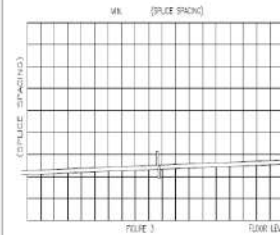

FIGURE 3: TYPICAL CONNECTION DETAILS OF CONCRETE WALL REINFORCEMENT
3. CARRY VERTICAL BARS AT LEAST 100mm ABOVE FLOOR LEVEL TO PROVIDE FOR SPICES WHEN NECESSARY. STOP AT 100mm BELOW TOP OF THE SLAB OR SOLID BRIDGE WHERE THE WALLS ARE. HORIZONTAL AND VERTICAL BARS SHALL BE SPACED BY LAPPING AT DISTANCE EQUAL TO 40 DIAMETER AND VERTICALLY WITHIN 10.0 METERS. PROVIDE THAT SPICES IN ADJACENT BARS ARE TRANVERSED AT LEAST 100mm (IN CENTER) (SEE FIGURE 3).